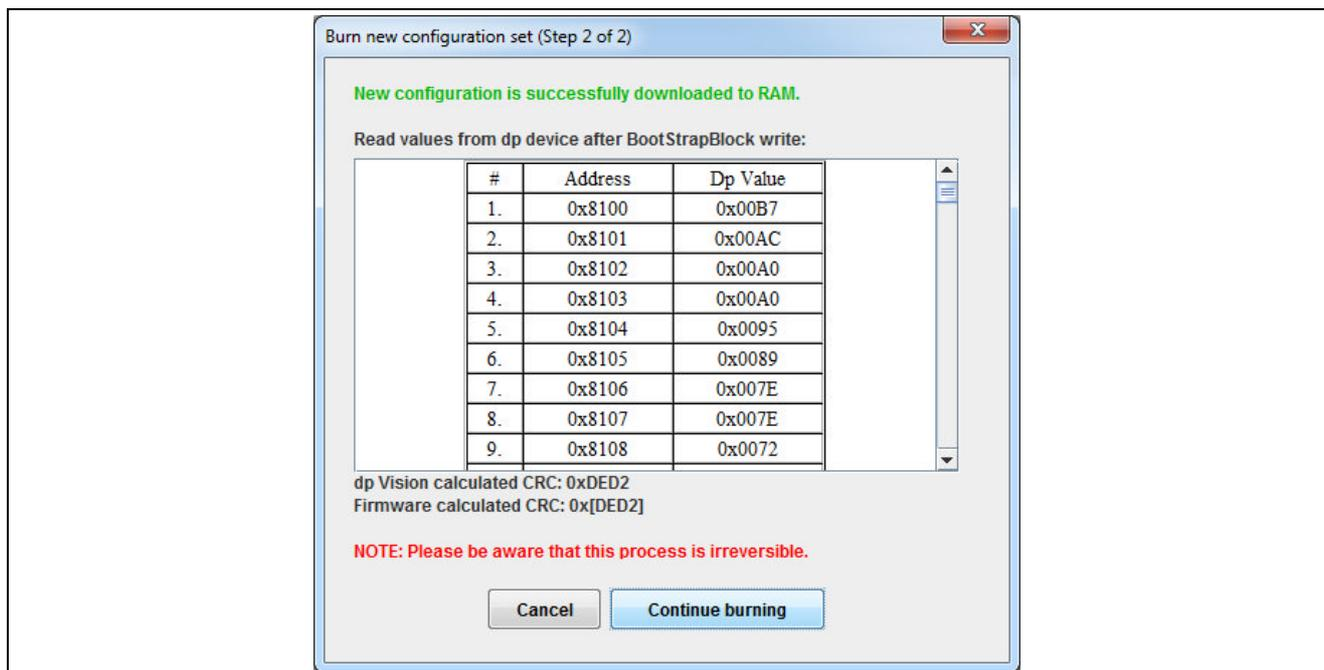

Figure 41 Burning a New Parameter Set – Step 2
2. Press the “Yes” button to continue. The new configuration will be successfully downloaded to RAM – see **Figure 41**.